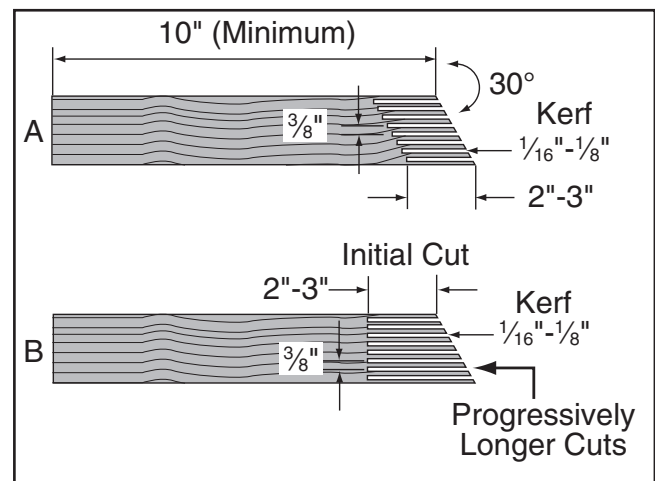

Figure 68. Patterns for featherboards (top view).
3. Make series of end cuts with the grain $\frac{3}{8}$ "– $\frac{1}{4}$ " apart and 2"–3" long, as shown in **Figure 68 (A)**. Alternatively, start cuts at 2"–3" deep, then make them progressively deeper, as shown in **Figure 68 (B)**.